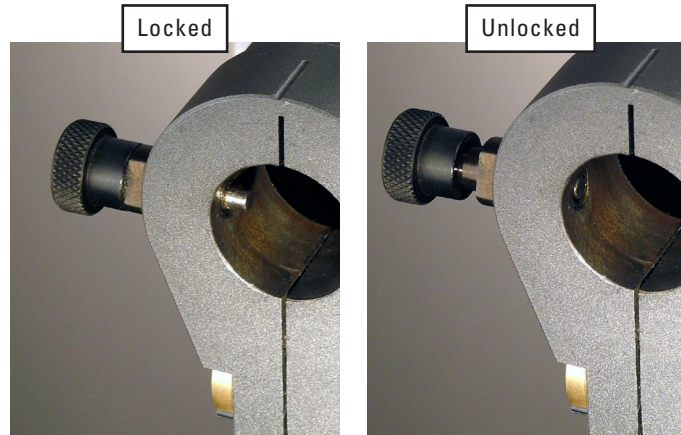

Figure 8-4. Retractable Pin in the Locked and Unlocked Position
Step 1. Pull the retractable pin, which is located on the left side of the arm, and turn it in either direction a 1/2 turn so the pin is no longer visible down the shaft of the column arm (Figure 8-4).
- Step 2. While holding onto the attachment, pull the retractable pin, which is located on the left side of the arm, and turn it in either direction a 1/2 (Figure 8-4).